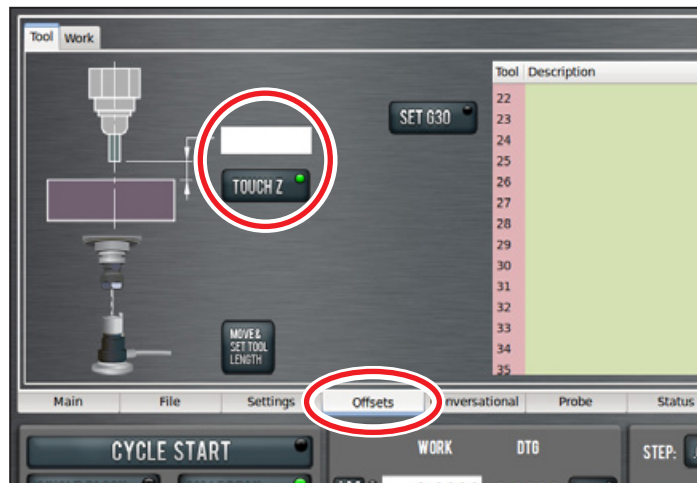

Figure 5.8
3. On the *Offsets* tab, enter *0.0* in the touch DRO and click the *Touch Z* button (see **Figure 5.8**). If you were not touching on the top of the workpiece, but instead using a feeler gauge or piece of paper between the workpiece and the tool, you could enter the thickness of the gauge or paper in the touch DRO before clicking *Touch Z* to account for the gauge thickness.